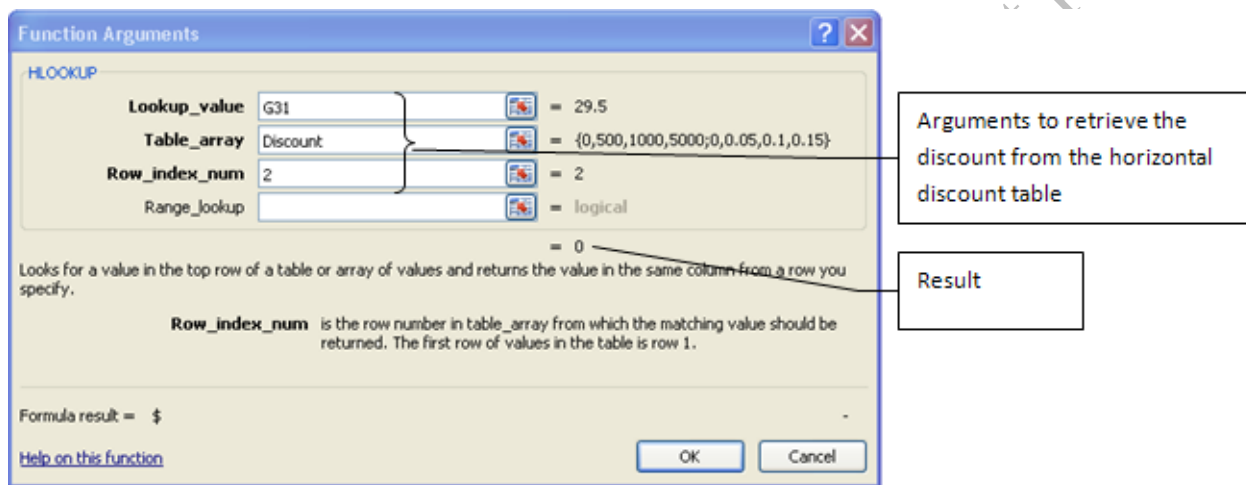

Figure 8.23. Horizontal lookup used to retrieve discount
5. In the Lookup value box type **G31**, in the Table array box type **Discount**, and in the Row index num box type **2**. Compare your results with Figure 8.23.